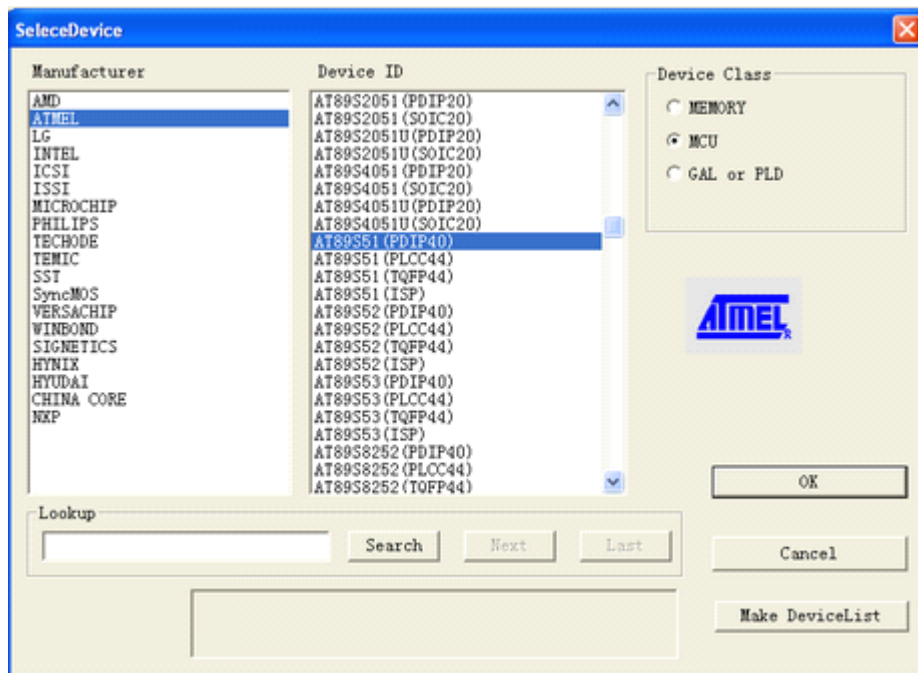

Figure 18 Getting Start                      Select Device
**Step 1 Select the device supporting:** First of all you should select a device matching with the device you want to programmed. By click the Sel\_Dev key on the main tool bar, the “SelectDevice” Window will appear. Select Device Class depend on the device. In this example, the AT89S51 is a MCU, so click MCU radio button. Select the Manufacturer as ATMEL. Then select the Device ID as AT89S51(DIP40). See the Figure 18.